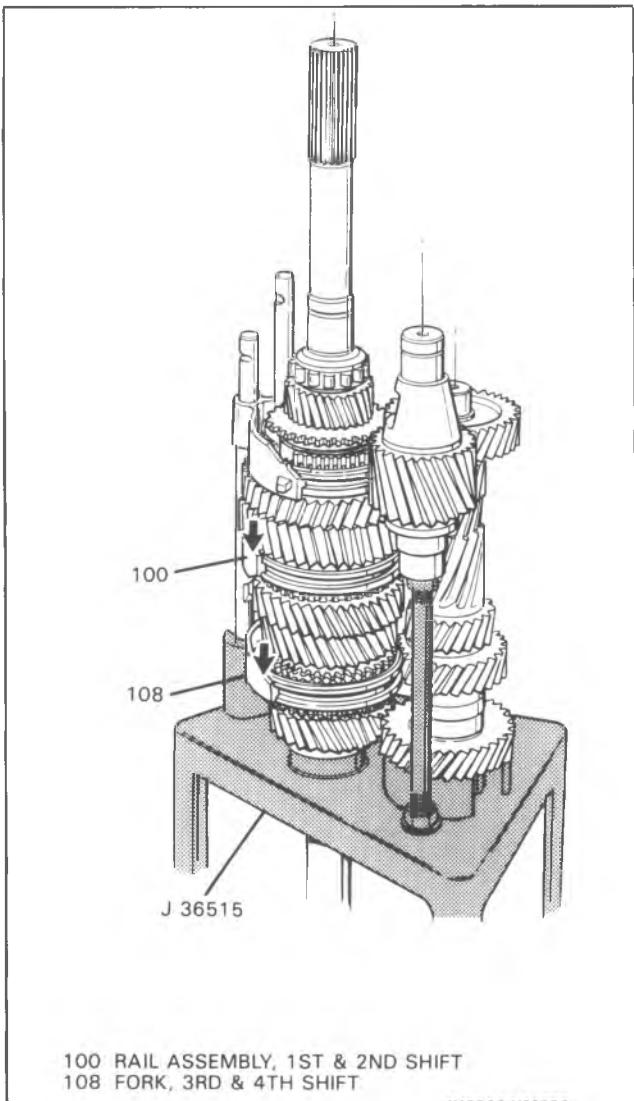

Figure 81 Locking Up Transmission
3. J 36515-12 onto countershaft (53) (5-speed) or (54) (4-speed).
4. Reverse idler assembly (46) and NEW o-ring (52).
5. Bearing assembly (outer) race (37) and ball bearing (outer) race (38).
6. Install on main shaft assembly (4) or (5)
- 3-4 shift fork (108).
- 1-2 shift rail assembly (100).
- Reverse shift rail assembly (111) and spacer block (115) (4-speed ONLY).
- Lock up transmission by sliding the 3-4 shift fork (108) and 1-2 shift rail assembly downward towards J 36515 (Figure 81).